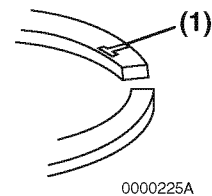

Figure 6-86
Note: Reinstall the top and second piston rings with the stamped “makers mark” (Figure 6-86, (1)) facing the top of the piston. The “makers mark” may vary in appearance but will always be located on the top surface of the piston ring adjacent to the piston ring gap. The oil ring and oil ring expander can be installed either side up.